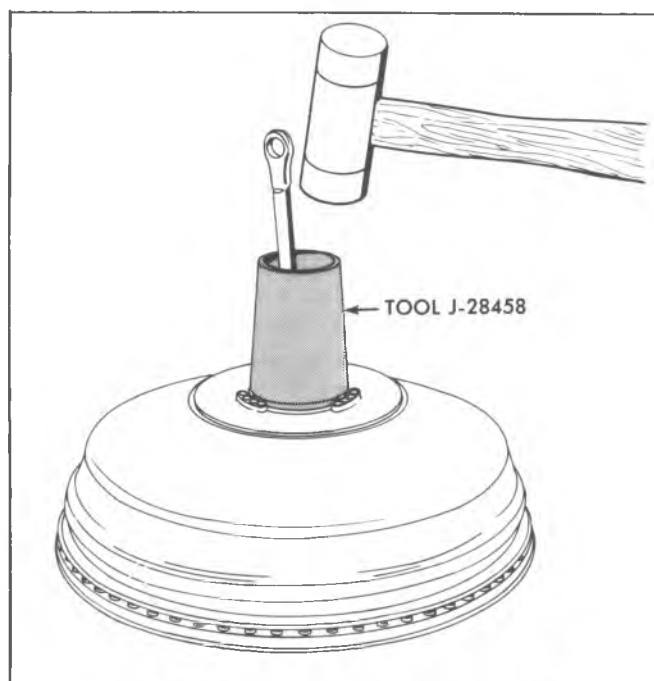

Fig. 5-8A--Installing Diaphragm Retainer
25. Place the diaphragm retainer over power piston and onto diaphragm. Place Tool J-28458 over power piston onto diaphragm retainer. Strike with hammer until retainer is locked on neck of power piston (fig. 5-8A).